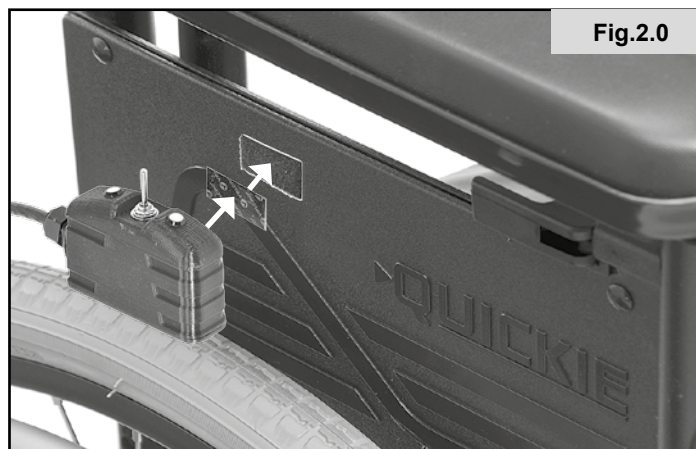

Fig.2.0
2. The switch box can be mounted anywhere you desire by simply applying the supplied hook and loop Velcro to the side of the switch box and your wheelchair armrest, frame, or other desired location, (Fig.2.0).